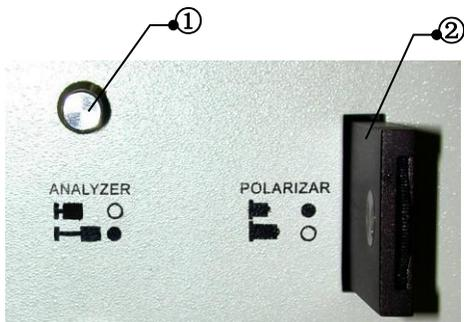

Fig.6
“**■** ○ ”.See fig.6.
4. Push the analyzer push rod ① in, mean is analyzer out of optical path. Like the mark “O ” . Push the polarizer push rod ① out, mean is polarizer out of optical path. Like the mark “O ” .See fig.6.